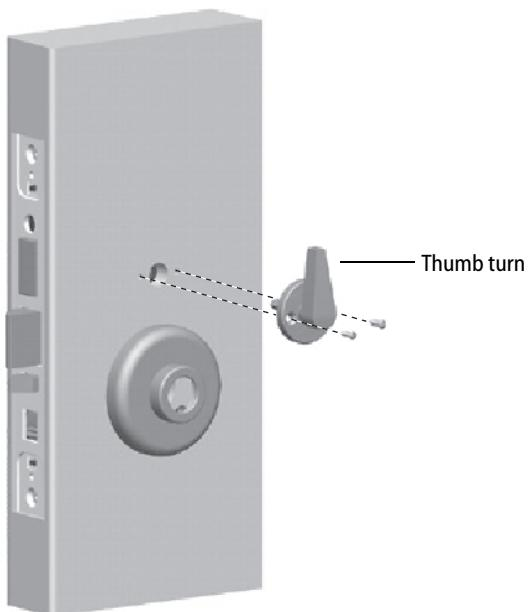

Figure 12 *Installing the thumb turn or emergency access plate (not shown)*
- 2 Install the thumb turn or emergency access plate using the two screws provided. See Figure 12.